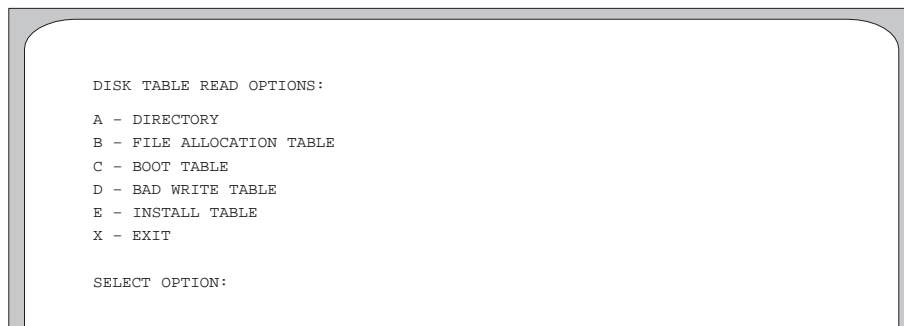

Figure A-48. DISK TABLE READ OPTIONS: Menu.
1. Select option **B** to read a disk table. The DISK TABLE READ OPTIONS: menu appears on the screen, indicating the types of database tables that you can read (and change), as shown in Figure A-48. Press **Ctrl+C** at any time to cancel the operation.